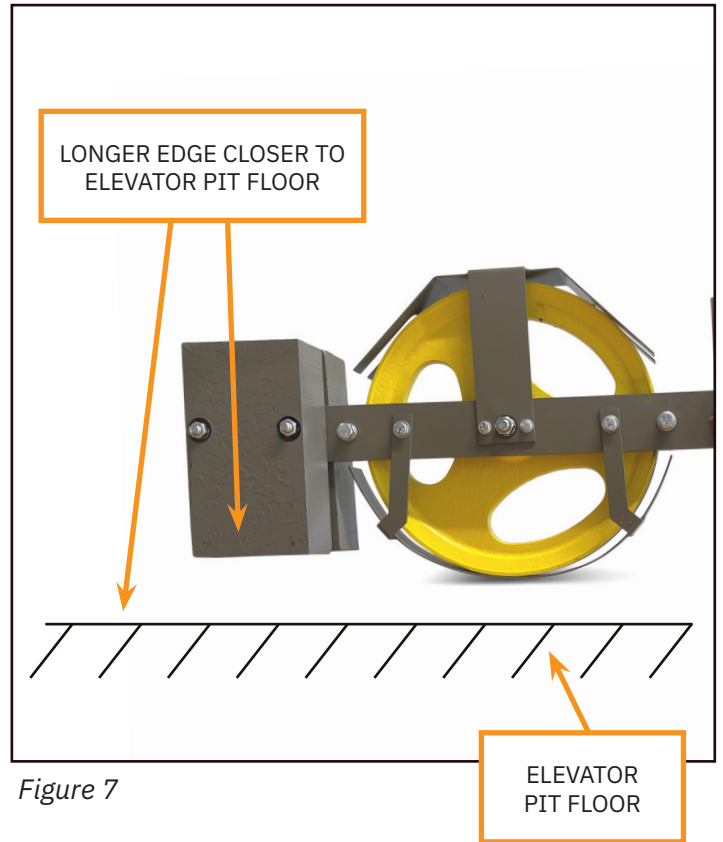

Figure 7
13. Reattach the weight blocks to the swing arm with the provided hardware. Ensure the orientation of the weight blocks is maintained (see figure 7).